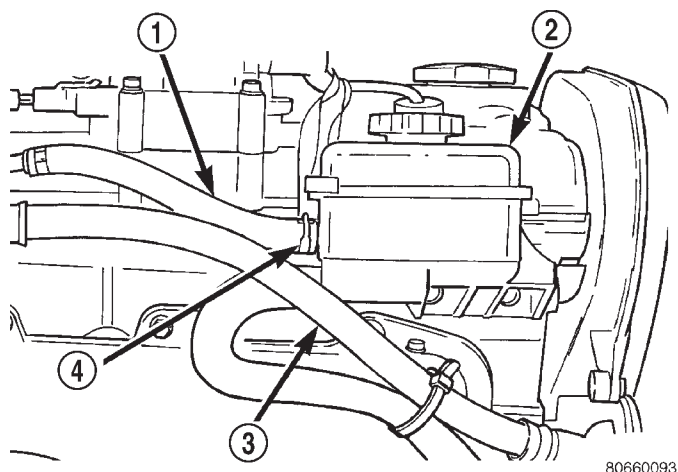

Fig. 7 Power Steering Fluid Return Hose At Reservoir
(2) Remove power steering fluid return hose from nipple on power steering fluid reservoir (Fig. 7).